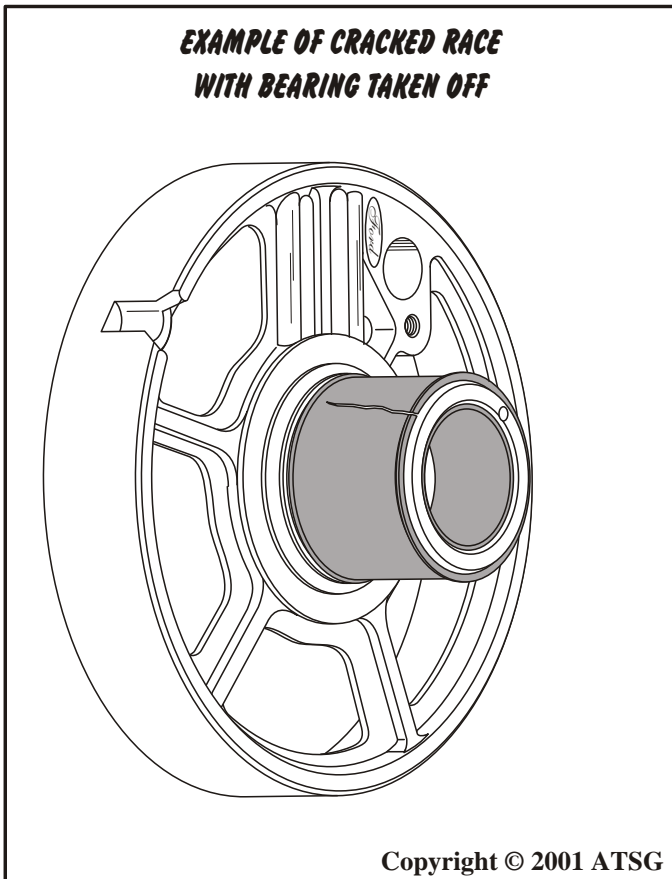

Figure 92
4. We have seen several supports with the bearing race cracked, as shown in Figure 92. This will create leakage of direct and forward clutch oil, into each others circuit.